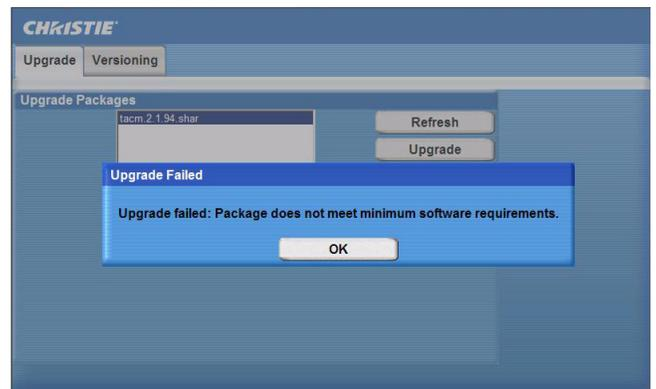

Figure 3-22 Downgrade Error
**NOTE:** If you try to download to an older package assuming you’re using the new board, an error should return. (Figure 3-22).